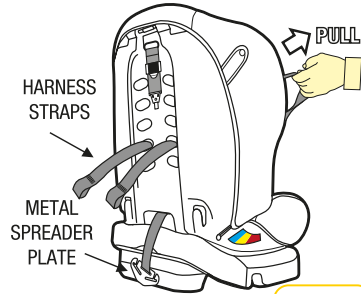

Figure 2
**Step 3:** Pull the shoulder harness straps through the shoulder slot holes in the seat body and cover. They are now loose in the front of the seat (refer Figure 2).